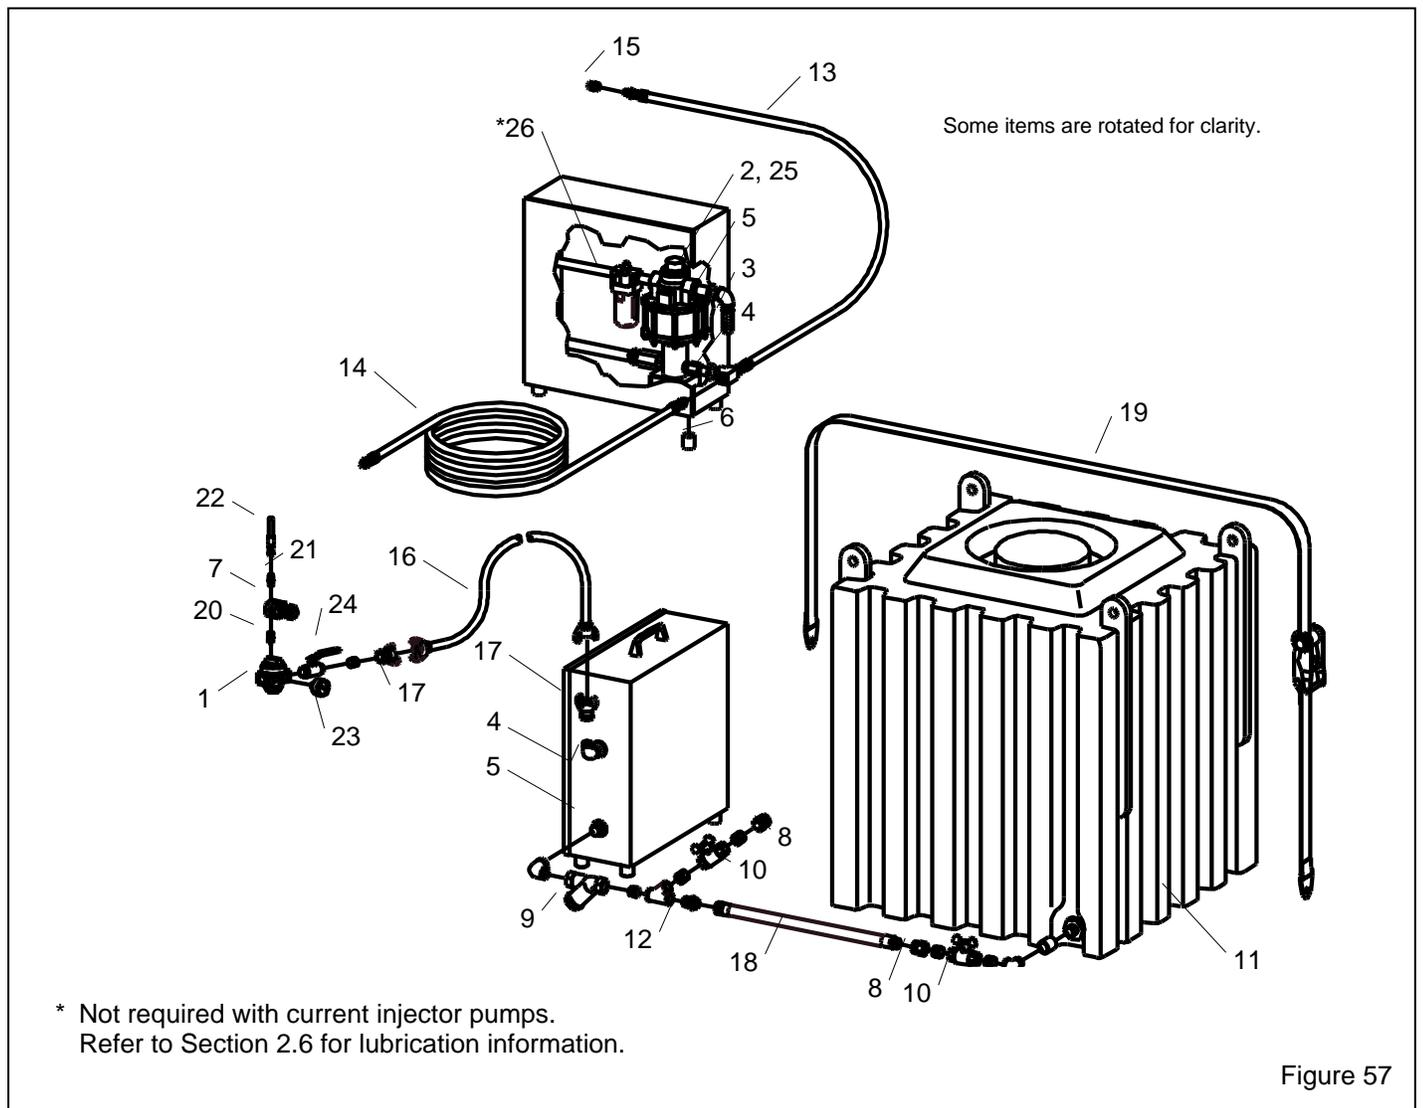

Figure 57
9.10 Pump Module and Water Tank – Figure 57